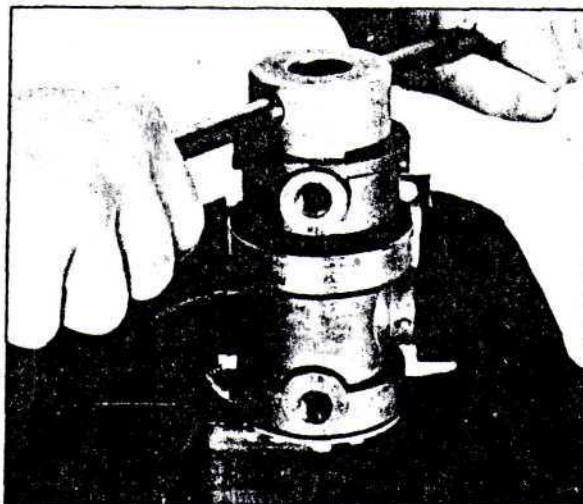

FIGURE 6
1. Place pump, bottom end up in a vise with the switch opening against one of the jaws of the vise (Figure 6).
1. Insert pump housing in vise, bottom end up, with the switch opening against one jaw of the vise (Figure 6).